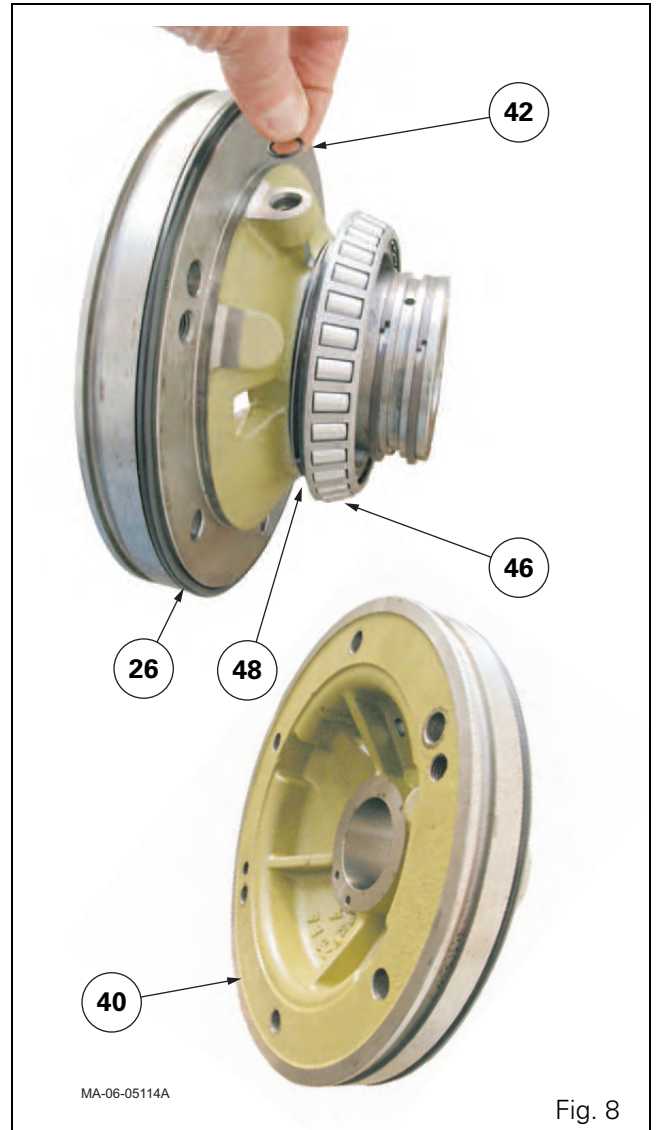

Fig. 8
18. Check for the following on the support (Fig. 8):
- O'ring (42) in the hydraulic port of the transfer pipe;
- the new O'ring (26);
- the bearing cone (46) and shims (48). The bearing cone (46) is free on the left-hand support.